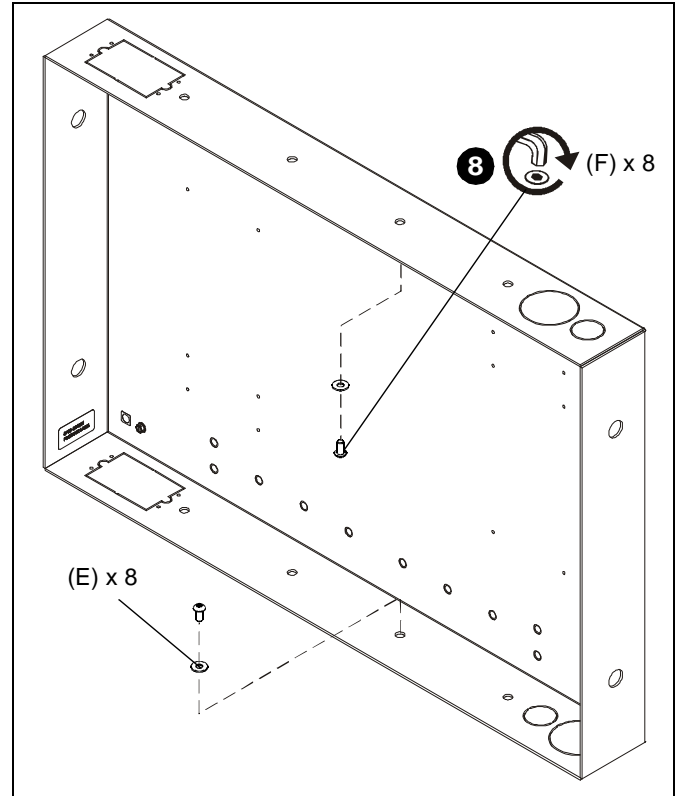

Figure 8
8. Secure PAC-502 enclosure to brackets using eight 1/4" flat washers (E) and eight 5/16-18 x 5/8" button head cap screws (F) using the 3/16" hex wrench (G). (See Figure 8)